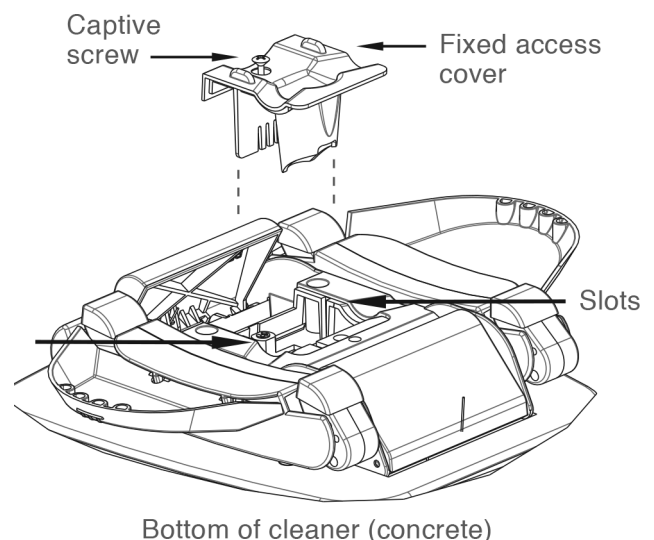

Fig. 12
7. Clean turbine/vacuum chamber (see Fig. 12).
- B. Remove the old wings by bending the wings up toward the sides of the cleaner, and lift them off their hooks (see Fig. 12). If any of the wing hooks are broken, take the StarzTruck automatic pool cleaner to your dealer for pod replacement as the cleaner will not function properly if the wings are not properly attached.